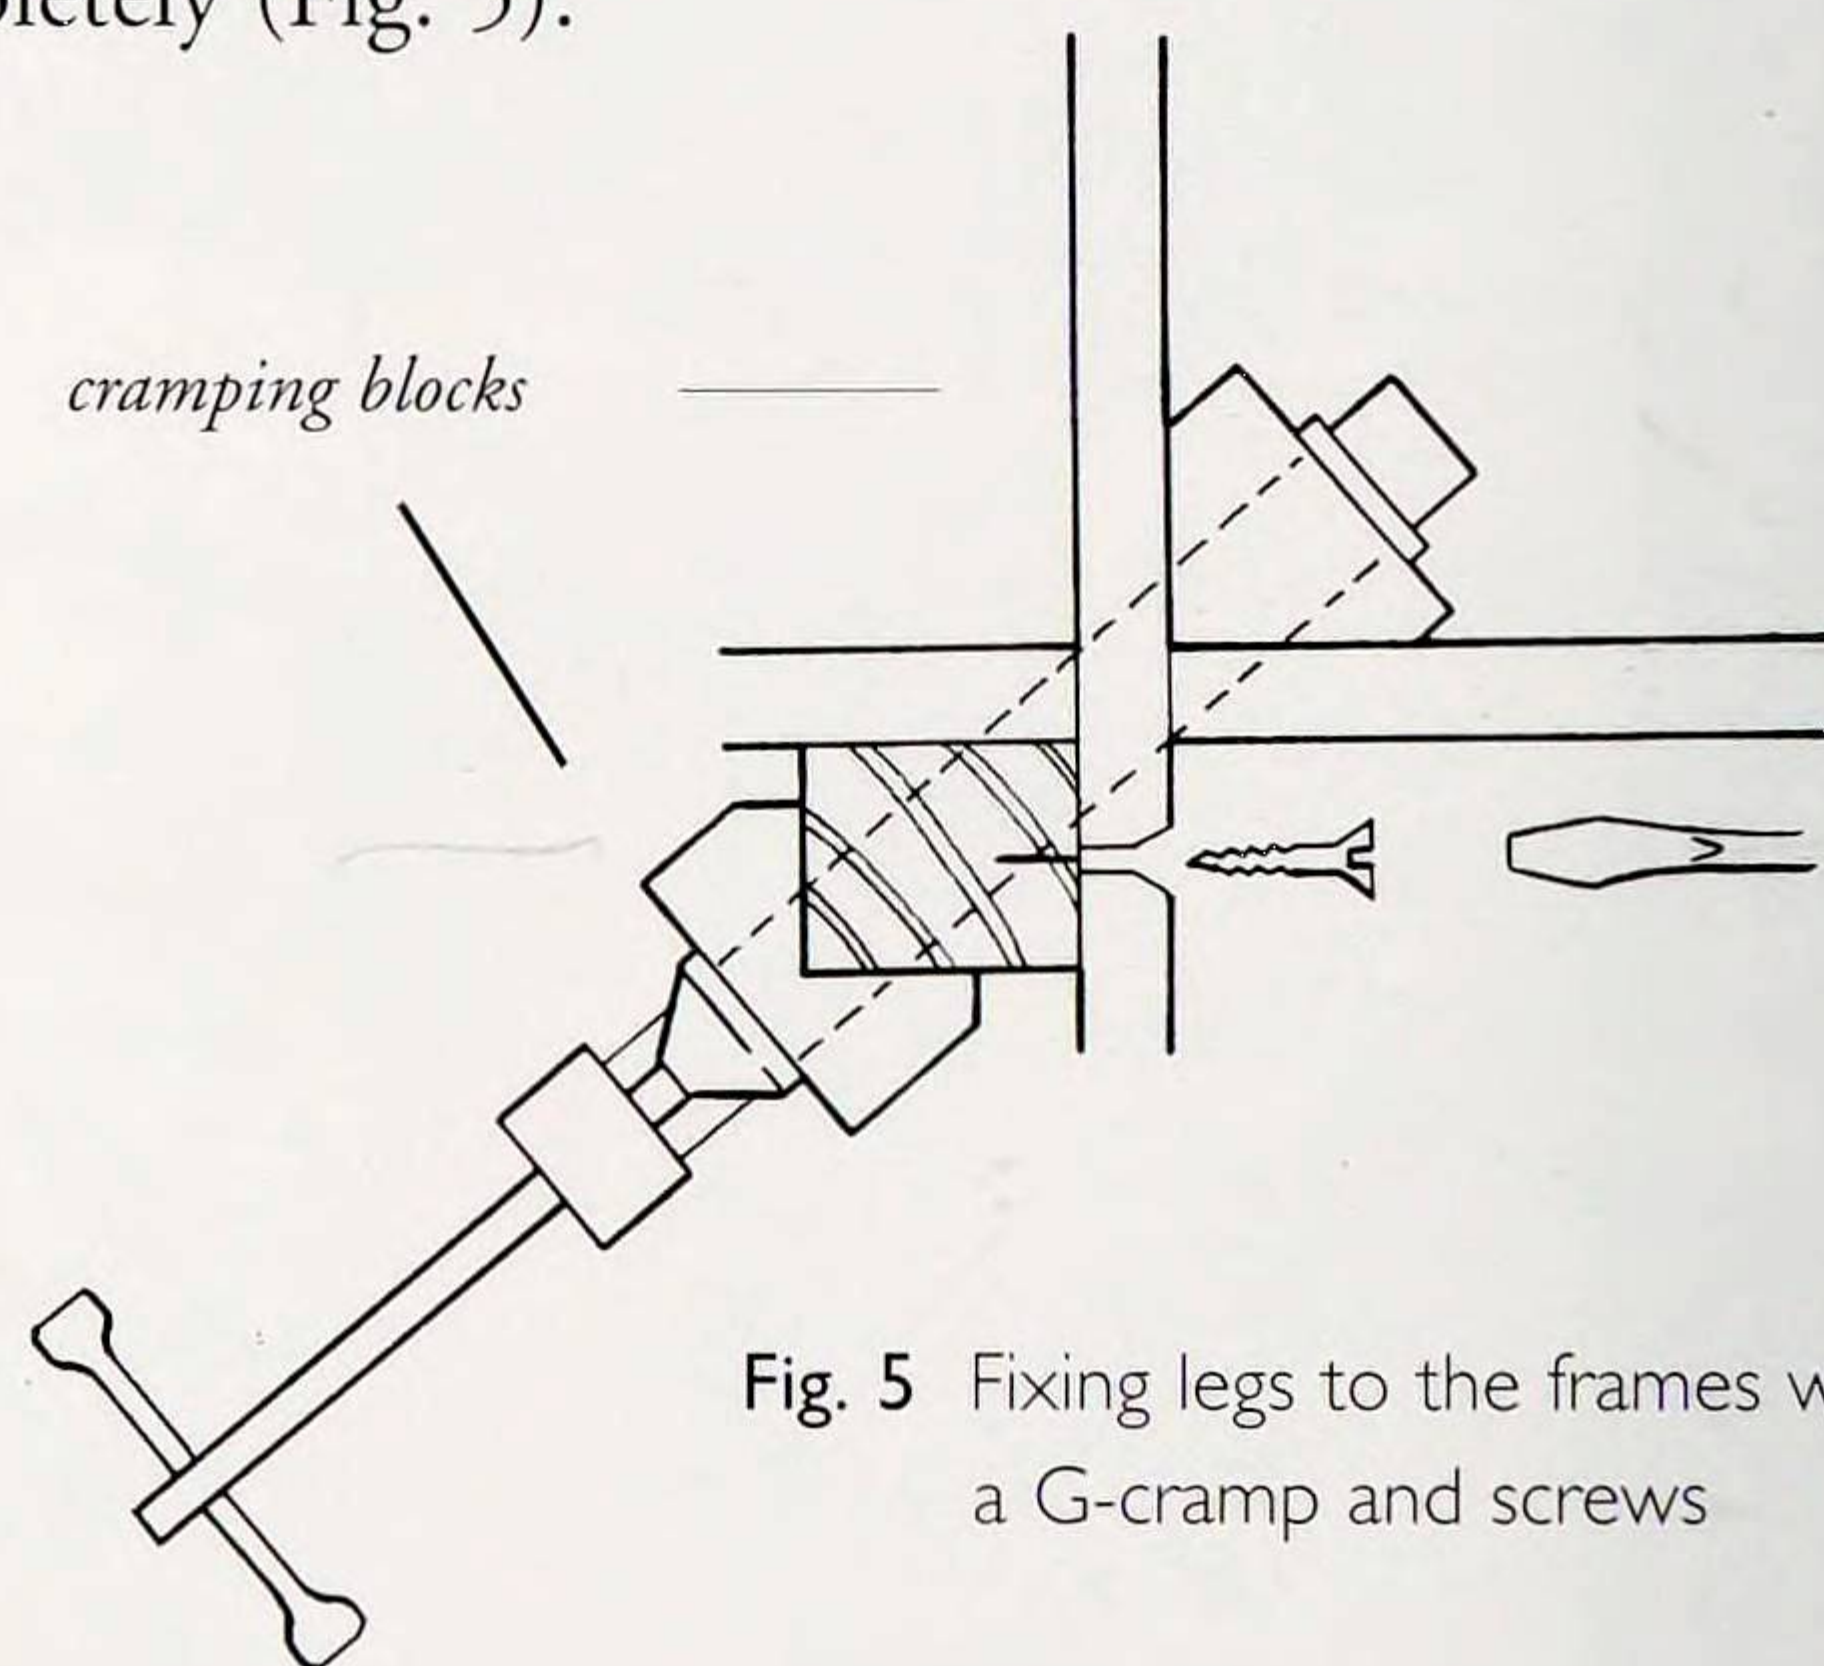

Fig. 5 Fixing legs to the frames with a G-cramp and screws
5. When the adhesive has cured, you can attach the frames to the legs. It is a good idea to use a screw as well as glue to fix these corners, although if you consider this unsightly, there is plenty of gluing surface to make the joint strong enough just using adhesive. To achieve a good bond, however, you need to cramp the joint firmly, so make some blocks from spare wood to fit into both the internal and external corners. Always remove excess glue when it is rubbery rather than leaving it to harden completely (Fig. 5).